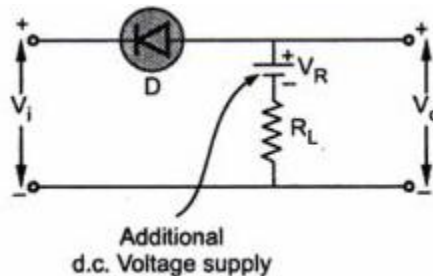

Fig. 1.50 Clipping above V_R
- The output of the clipper can be adjusted as per the requirement by adding an additional voltage source in series with the load-resistance as shown in the Fig.1.50.